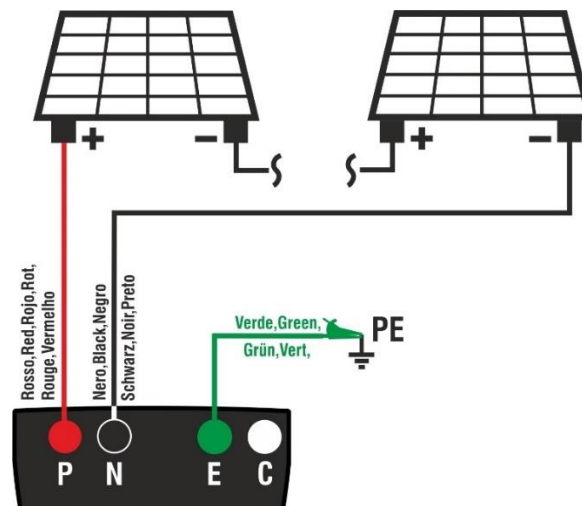

Fig. 7: Instrument connection for insulation measurement in DUAL mode
6. Connect the instrument to the PV string to be tested as shown in Fig. 7. **The test can be carried out also on more strings connected in parallel to each other. Please remember that it is also necessary to separate possible overvoltage protections connected to the cables of the string(s) and that it is recommended to measure upstream of possible blocking diodes.**